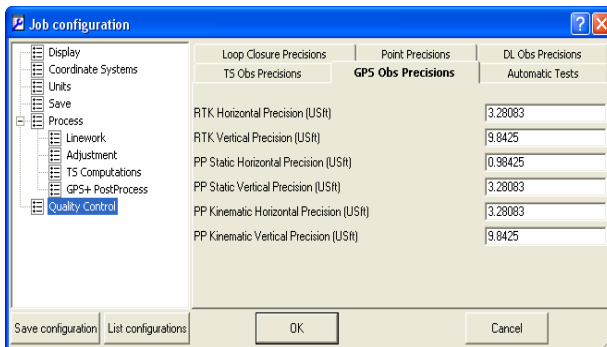

Figure 2-33. Job Configuration – GPS Obs Precisions
- The *GPS Obs Precisions* tab sets horizontal/vertical precisions for RTK vectors and static/kinematic GPS post processing vectors (Figure 2-33 on page 2-21). If the values for horizontal $\sqrt{(Res(e))^2 + (Res(n))^2}$ and vertical residuals for RTK and GPS post-processed vectors resulting from a net adjustment—with Rejection Criterion-By Control—are worse than the values set in this tab, the observations are highlighted in red on the *GPS Obs* tab, Map view, and Reports. If the values of horizontal precision/vertical precision for RTK and GPS post-processed vectors calculated in the process of net adjustment are worse than the values set in this tab, the observations are highlighted in red on the *GPS Obs* tab, Map view and Reports, and will not be used in the final adjustment of the net.